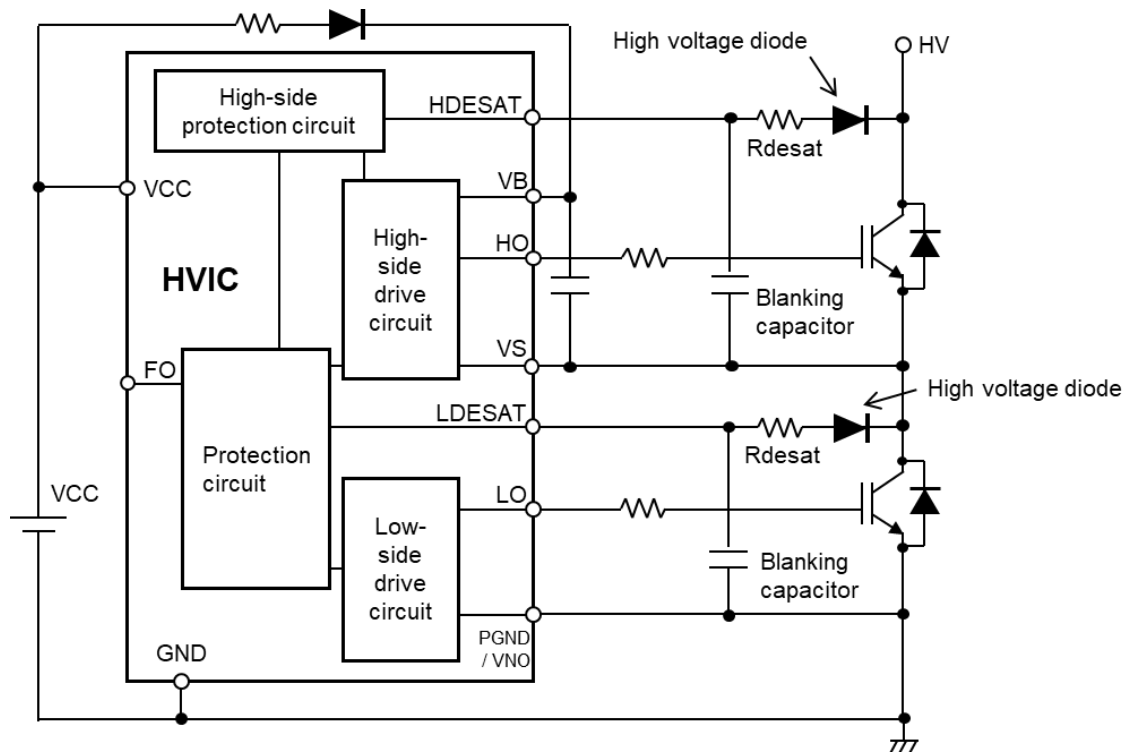
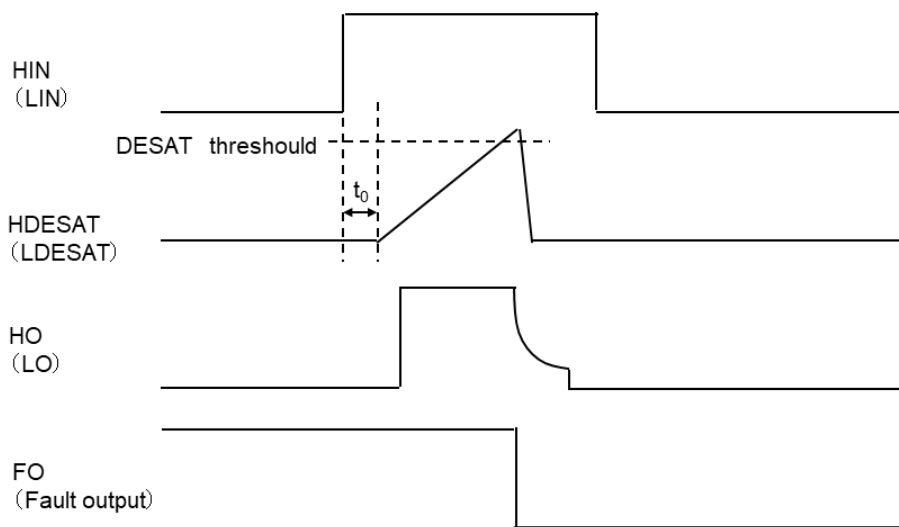

Fig.20 Connection example using desaturation method
Fig.21 Timing chart using desaturation method
Fig.20 shows connection example using desaturation method. Fig.21 shows the timing chart.
Cblank indicates the blanking capacitor in Fig.20. The t₀ blanking time is set in HVIC. So when Cblank equals 0(pF), the blanking time is t₀. Please refer to the DESAT threshold Ichg . Please set the blanking capacitor using (2) expression according to the blanking time to be set.